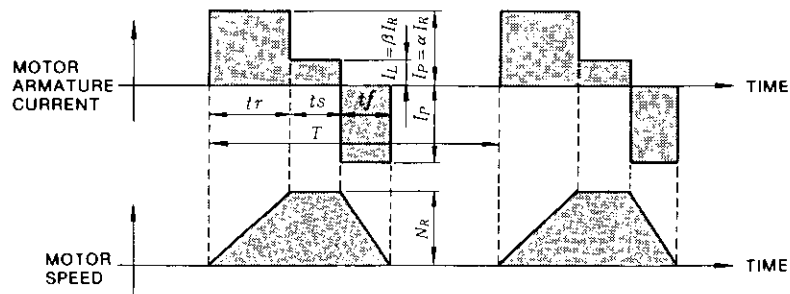

Fig. 4.3 Timing Chart of Motor Armature Current and Speed (Restricted by SERVOMOTOR)
- When the motor repeats rated-speed operation and being at standstill (Fig.4.3).